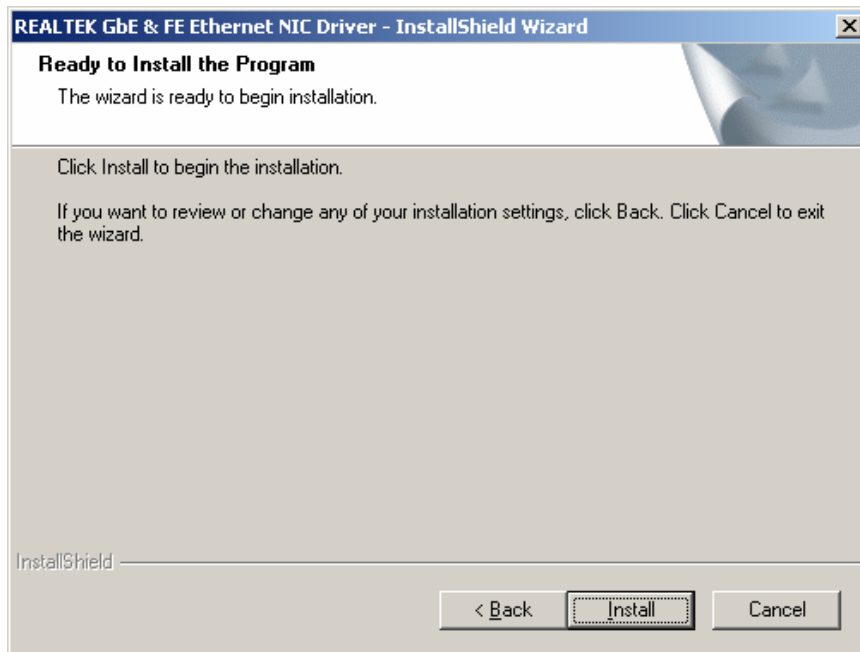

Figure 6-17: Realtek LAN Driver Ready to Install
Step 3: Click NEXT and the Ready to Install screen appears (Figure 6-17).